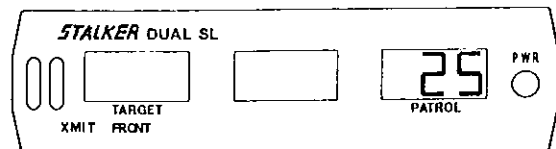
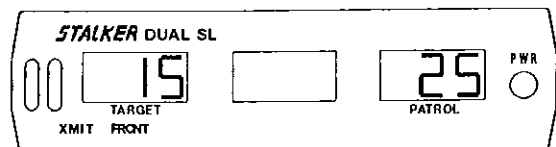

Fig 34
Fig 35
Two (2) tuning forks are supplied for **STALKER DUAL SL**. The tuning forks are calibrated for 25 mph and 40 mph (40 and 64 kph). To perform the tuning fork test, power the unit ON (press **PWR** switch), select moving mode (press **MOVING/STATIONARY** key), select the front antenna (press **ANT** key), and place the unit in transmit mode (press **XMIT** key). Strike both tuning forks against a hard nonmetallic surface, such as the heel of a shoe. Quickly hold the lower speed fork approximately two (2) inches in front of the antenna, with the narrow edge of the fork facing the antenna. The patrol window should indicate  $25 \pm 1$  mph (40 kph) (Fig 34). Now move the higher speed fork in front of the antenna with the narrow edge facing the antenna. The target window should register 15 mph  $\pm 2$  (24 kph) (Fig 35), which is the difference in speed of the two forks. Repeat the above test with the rear antenna selected, if installed. *Note: We recommend that the tuning fork test be performed on each antenna, at least twice daily -- once prior to using the unit for speed measurement, and again when no further usage is intended. Some departments perform this test both before and after each citation. Check your department policy.*